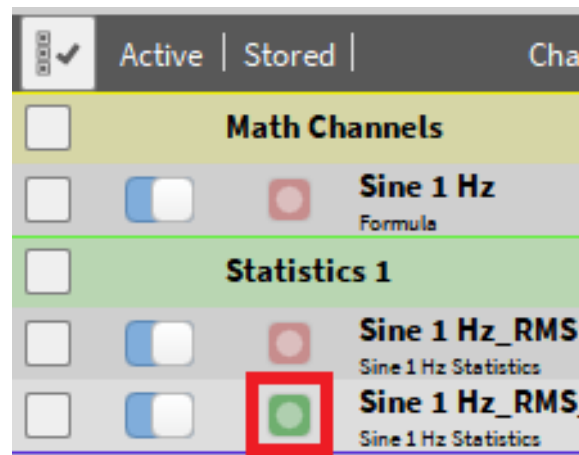

Fig. 7.176: Recognition of offline created channels
- Channels that have been created offline can be recognized on the Green Record button in the Channel List (see Fig. 7.176):